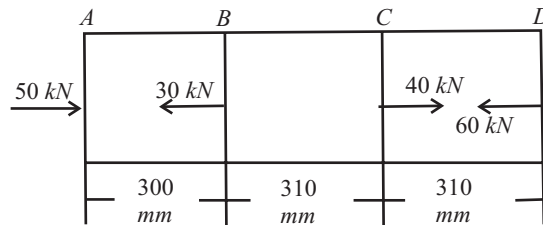

Fig. 14.28
Q. 42: A steel bar is subjected to loads as shown in fig. 14.28. Determine the change in length of the bar ABCD of 18 cm diameter. $E = 180 \text{ kN/mm}^2$. (May-05(C.O.))
Sol.: Ref fig 14.28